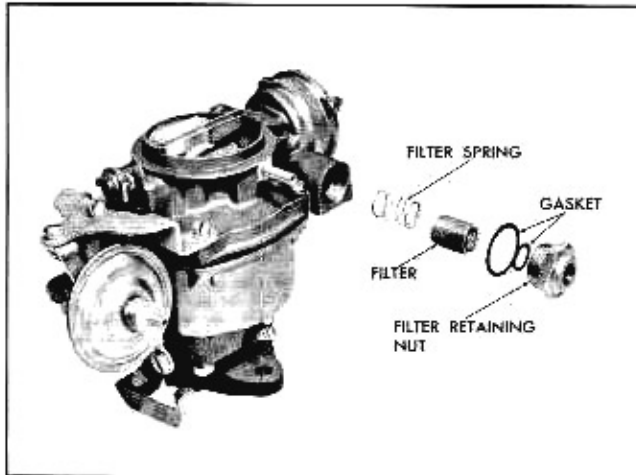

Fig. 6B-15 Removing Fuel Filter
8. Rotate choke shaft clockwise to remove choke piston from housing, then remove piston and choke shaft from carburetor (Fig. 6B-14).